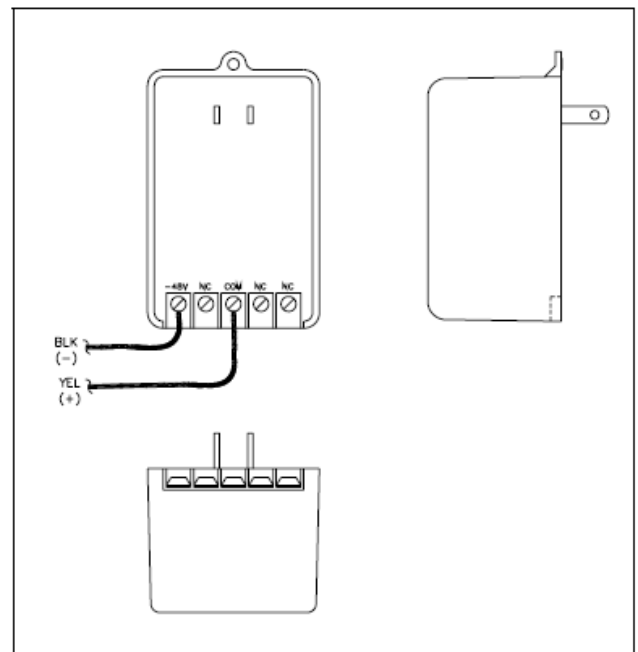

Figure 4. Transformer Details
- 8. Follow Figure 4 to connect the wires to the Model 221 Plug-in Transformer. Connect the yellow (+) wire to the terminal labeled COM. Connect the black (-) wire to the terminal labeled -48V.
- 9. Plug the transformer into a 115 V ac outlet. Figure 4. Transformer Details